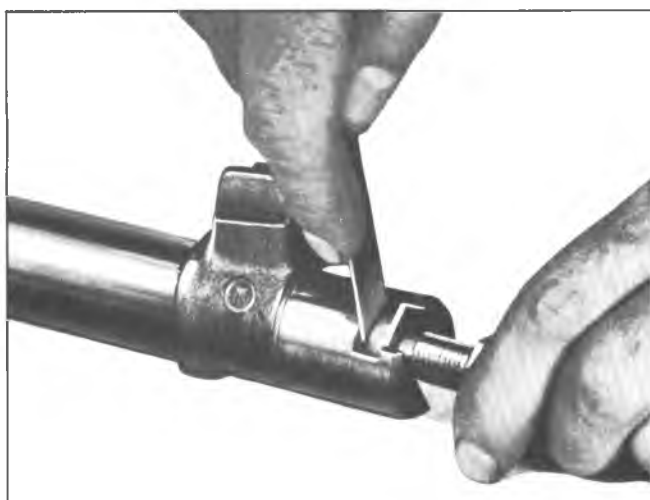

Fig. 16—Checking Lash Adjuster End Clearance
5. Position the lash adjuster (with shim) in the slotted end of the pitman shaft. Check the end clearance, which should not be greater than .002" (fig. 16). If clearance is greater than .002", a steering gear lash